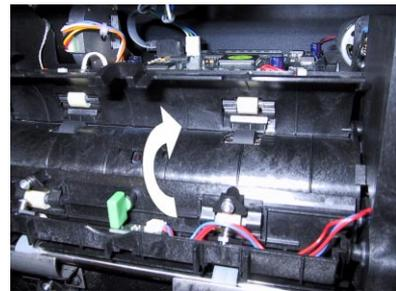

Fig. 7-9. Unlock and lift upper access door to check for stuck notes.
8. Release the **upper access door (refer to Figure 7-9)**. Gently lift the door to expose the feed path. Remove any notes.